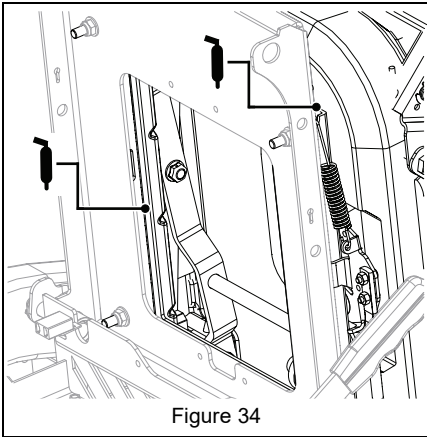

Figure 34
- Apply grease to seat tracks through slots under seat plate. See Figure 34.